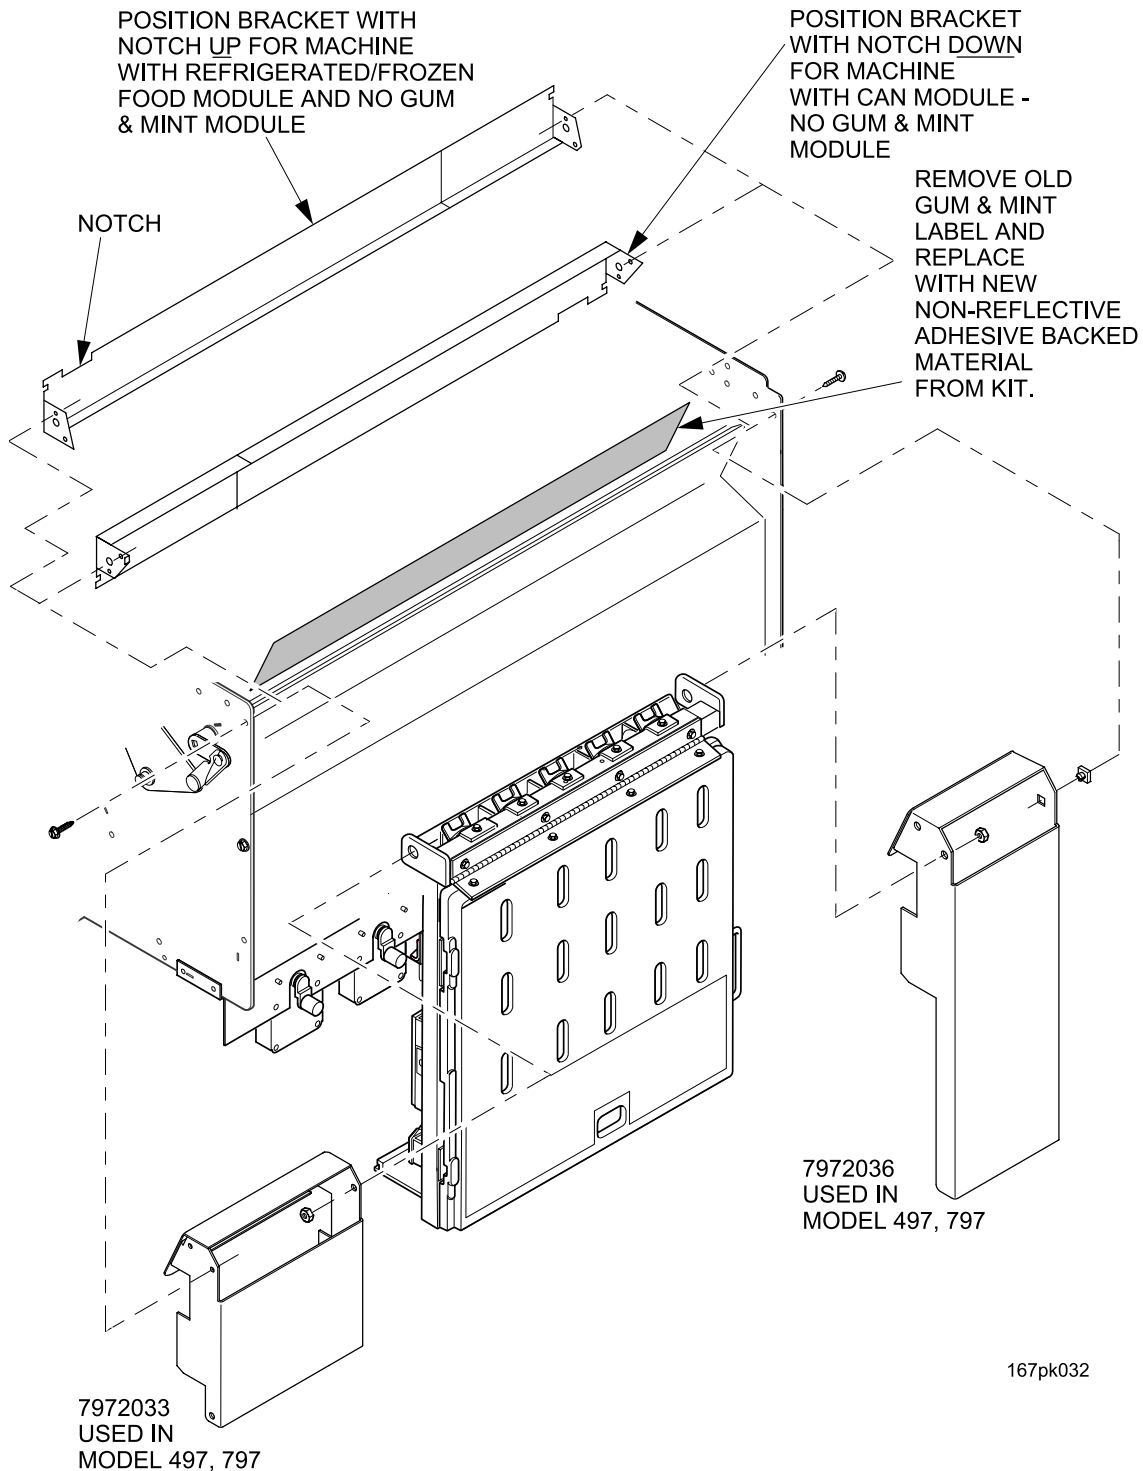

Figure 6
9. Attach the new filler assembly or gum and mint mounting hardware to the delivery pan, (See Figures 6 through 8). If your machine has a food or can module and no gum and mint module, attach the filler brackets as shown (See Figure 6 below). **NOTE:** for the 167 gum and mint module, use the thinner #10 lock nut 9900207 to reattach the module on the bracket side. Remove the old gum and mint label and apply the new label (supplied with this kit) to the same area.